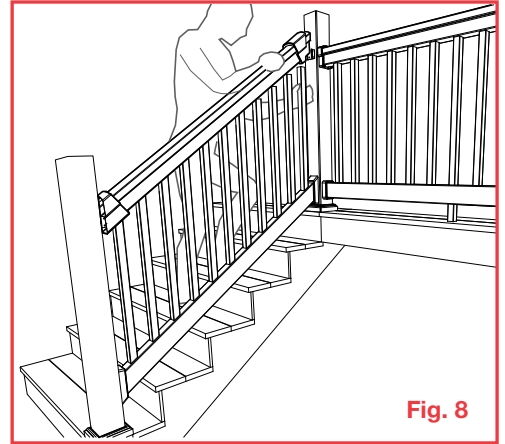

Fig. 8
13. Slide bracket covers over both ends of the top rail. Align top rail over the balusters and insert balusters one at a time until the top rail is fully installed. (Fig. 8)